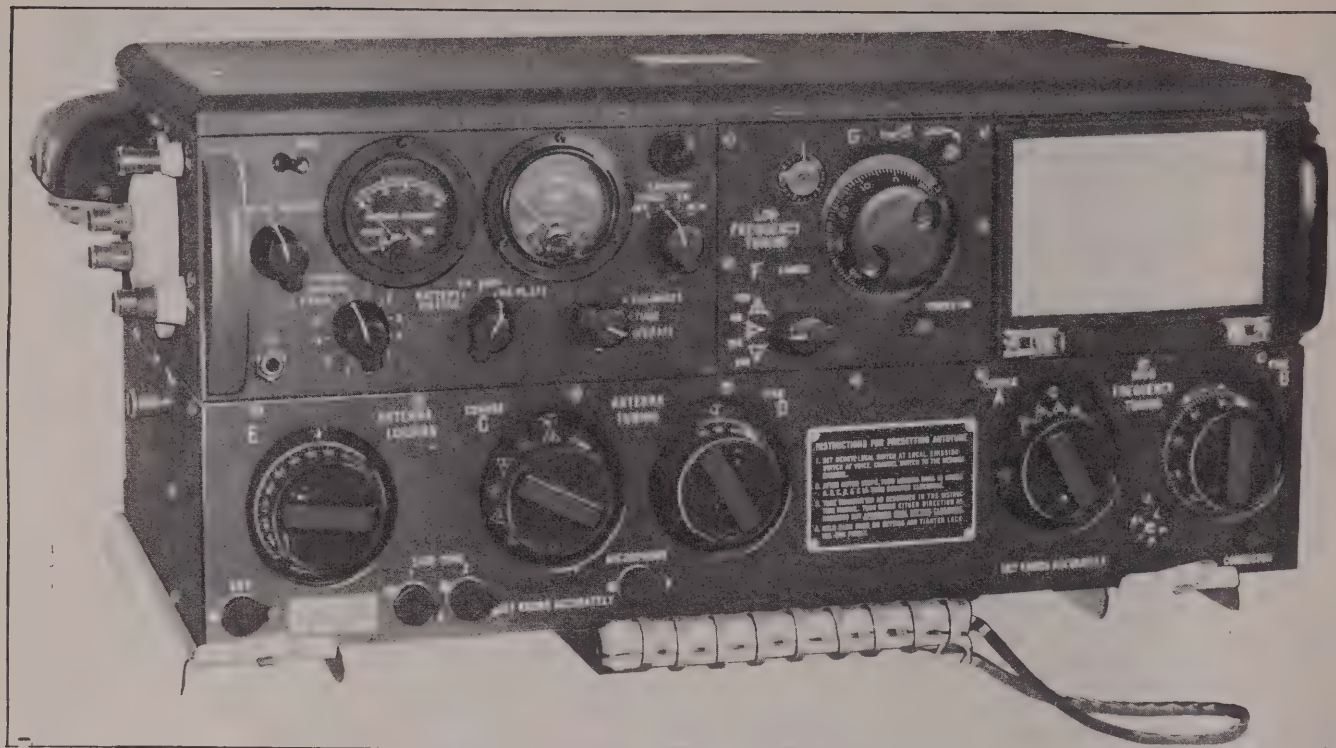

Figure 1-2. Radio Transmitter T-47A/ART-13
(1) **TRANSMITTER T-47A/ART-13.** Used as the basic unit of Radio Transmitting Set AN/ART-13A, this transmitter (see fig. 1-2) provides variable frequency oscillator (VFO) operation with two bands of transmission frequencies available. Normal frequency range of this unit is 2000 kc. through 18,100 kc. Output may be obtained in the low frequency range of 200 kc. to 600 kc. by using Oscillator O-17/ART-13A which is not a part of the transmitter but may be installed upon removal of Panel MX-128/ART-13.